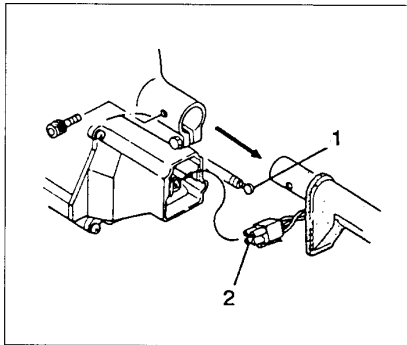

Fig. 3-7
1. Separate drive shaft from engine and throttle wire (1) from throttle trigger. Disconnect couplers (2). (Fig. 3-7)